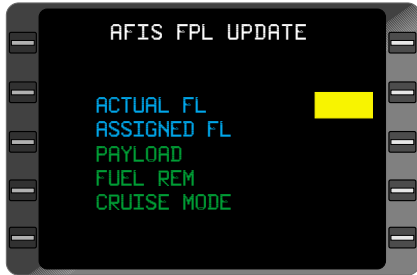

Figure 7-126
4. **ENTER** Key - DEPRESS. **AFIS FPL UPDATE** Page appears with cursor positioned over **ACTUAL FL** value field. (Figure 7-126)